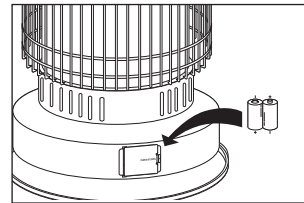

Fig.8
F) INSTALLING BATTERIES. (Fig. 8)